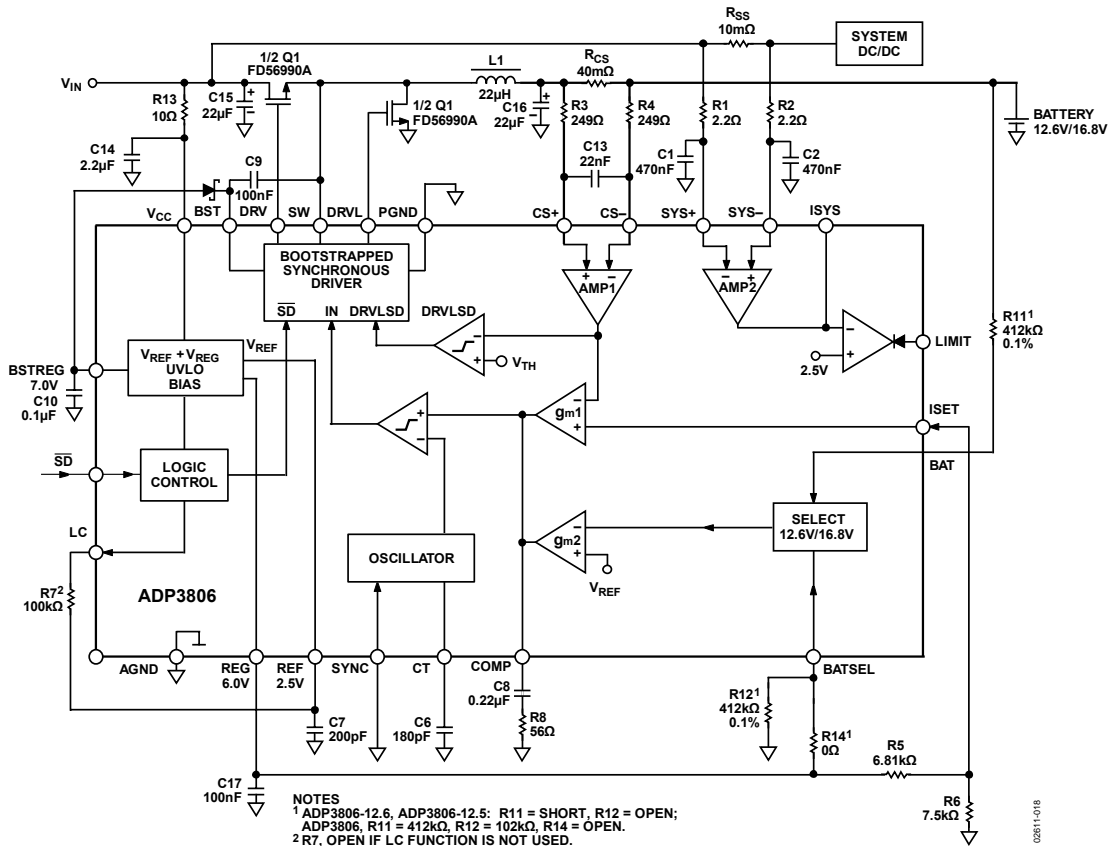

Figure 18. Typical Application
AMP1 in Figure 18 has a differential input to amplify the voltage drop across an external sense resistor  $R_{CS}$ . The input common-mode range is from ground to  $V_{CC}$ , allowing current control in short-circuit and low dropout conditions. The gain of AMP1 is internally set to 25 V/V for low voltage drop across the sense resistor. During constant current (CC) mode,  $g_{m1}$  forces the voltage at the output of AMP1 to be equal to the external voltage at the ISET pin. By choosing  $R_{CS}$  and  $V_{ISET}$  appropriately, a wide range of charge currents can be programmed.
Refer to Figure 18, the typical application circuit, for the following description. The design follows that of a buck converter. With Li-Ion cells, it is important to have a regulator with accurate output voltage control.